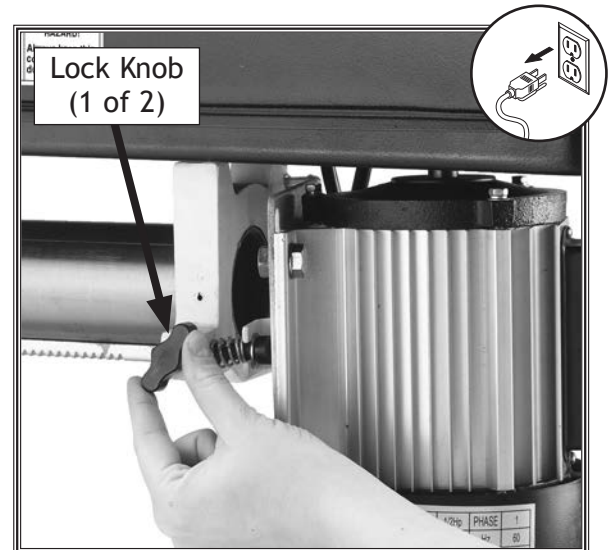

Figure 27. Example of loosening belt tension lock knob.
2. Loosen the belt tension lock knobs on both sides of the headstock (see Figure 27), so the motor is free to move.